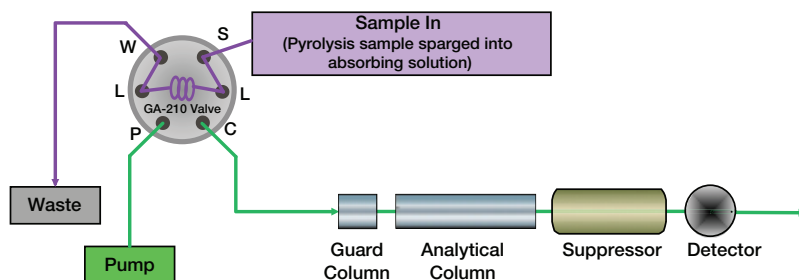
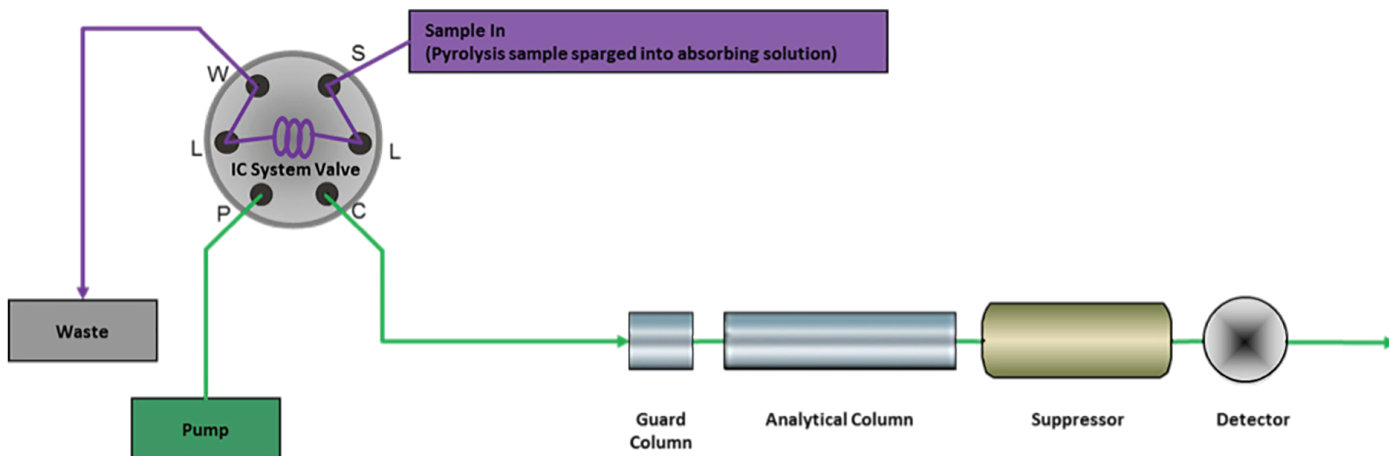

Figure 10. Combustion IC application - direct injection using the injection valve in the Mitsubishi GA-210 Module.
Figure 11. Combustion IC application - Direct injection using injection valve in the Dionex Integrion IC system.
This is the most common combustion IC setup. In this setup, the sample loop is installed on the Mitsubishi GA-210 injection valve. When the sample is ready for IC analysis, the Mitsubishi GA-210 module loads the sample loop. The schematic is shown in Figure 10. This setup is recommended for isocratic applications with pressures up to 3000 psi.
In this setup, the sample loop is installed on the Dionex Integrion injection valve, instead of using the injection valve in the Mitsubishi GA-210 module as shown in Figure 10. This setup allows the use of high pressure ion chromatography and reduces the gradient delay.
Plumb the system as shown in Figure 11:
- This Dionex IC PEEK Viper fitting is used in the setup shown in Figures 11 (direct injection using Dionex Integrion IC system injection valve) and 12 (preconcentration), but not in Figure 10 (direct injection using the Mitsubishi GA-210 injection valve).
4. Complete the installation according to flow diagram in Figure 10, 11, or 12.
In the schematic shown in Figure 11, additional sample needs to be loaded into the sample loop to minimize sample carryover.